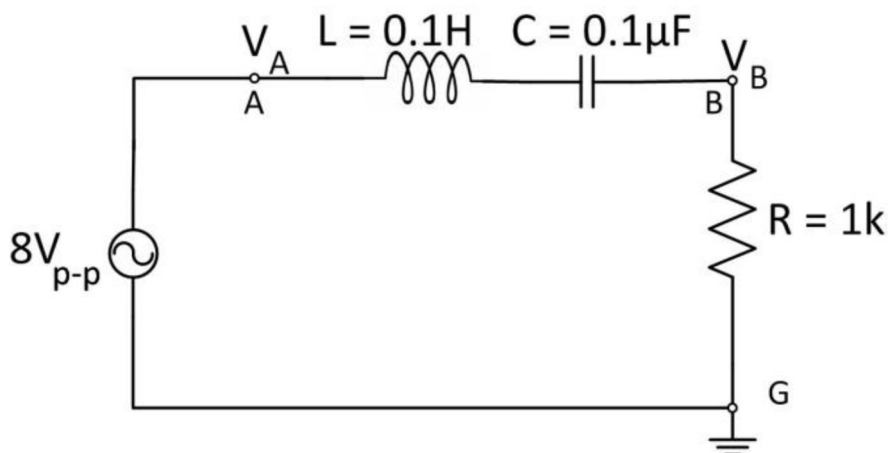

Fig. 3
2. Find the value of the resonant frequency for RLC circuit given in Fig. 3.
1. Assemble the circuit as shown in Fig. 3. Apply a sinusoidal input (8Vpp) to the circuit. Using CRO, measure the applied input across terminals A-G in Channel 1 and the current through RLC circuit through the voltage drop across terminals B-G in Channel 2.